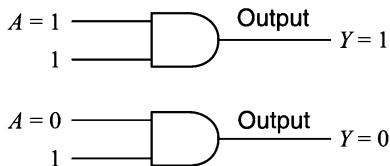

Fig. 26.19
**Theorem 2.** ( $A \cdot 1 = A$ ). This theorem can be verified by ANDing a variable  $A$  with a 1 and is illustrated in Fig. 26.19. Here one input to AND gate is always 1 and the other can be a value 1 or 0.